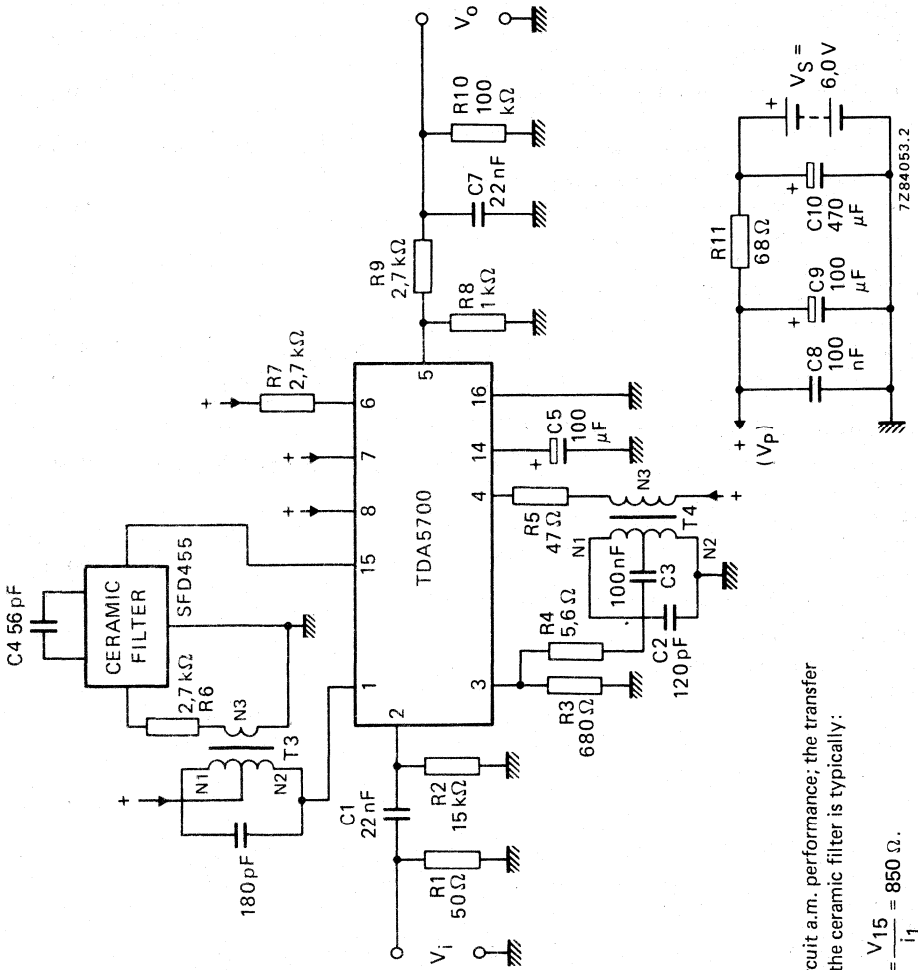

Fig. 3 Test circuit a.m. performance; the transfer impedance of the ceramic filter is typically:
**A.M. performance** (in test circuit Fig. 3)
A.M. — i.f. coils (Figs 3 and 5)